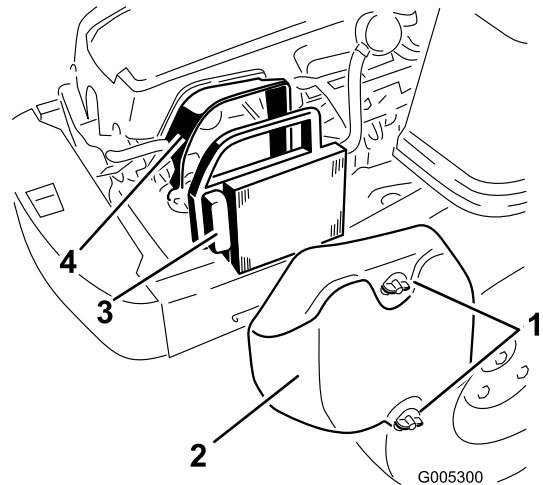

Figure 29
1. Remove the air cleaner cover (Figure 29).
2. Remove the air cleaner element with the integral rubber seal (Figure 29).
5. Install the air cleaner element with the pleated side “out” and seat the rubber seal onto the edges of the air cleaner base (Figure 29).
6. Reinstall the air cleaner cover and secure with the two knobs (Figure 29).